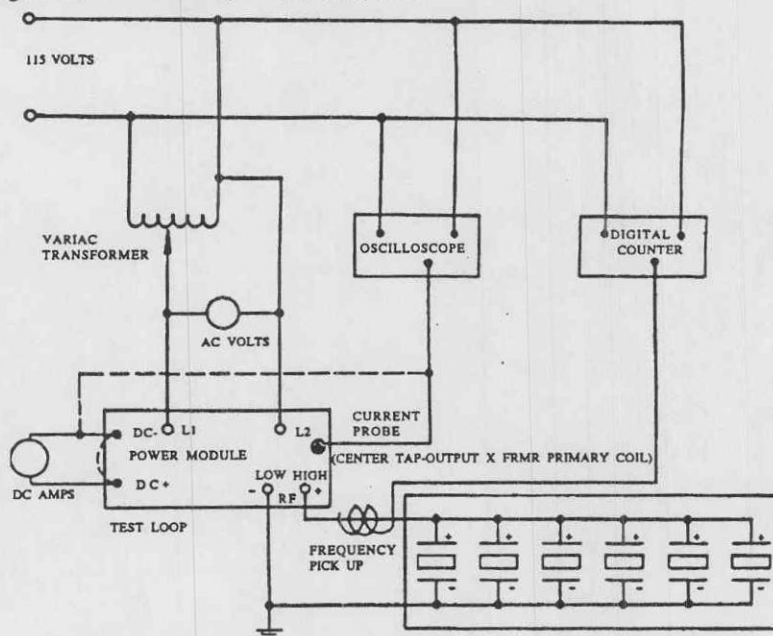
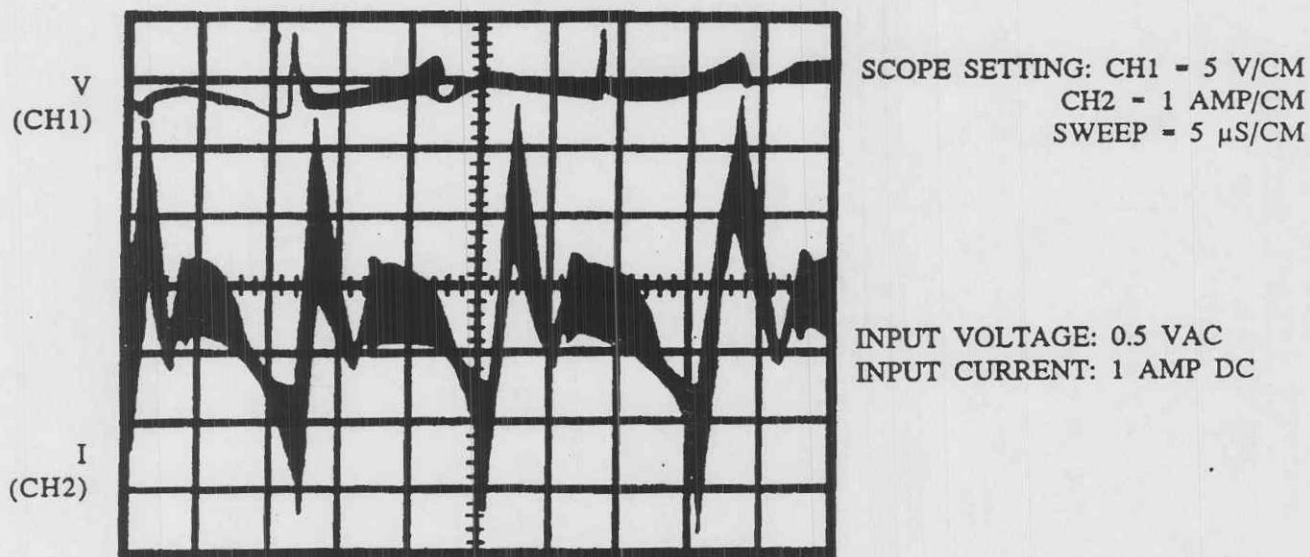

Figure 4-4. Test instrumentation schematic.
Figure 4-5. Output open-circuited.
- c. If no ultrasonic activity is present and the LEDs do not glow, connect an oscilloscope into the circuitry by following the test instrumentation schematic in figure 4-4 and observe the oscilloscope parameters in figures 4-5 through 4-11. The figures illustrate possible abnormalities.
- d. The direct current drawn by the power module can be measured by removing the test loop jumper (see fig 4-4) or by using a clip-on ammeter.